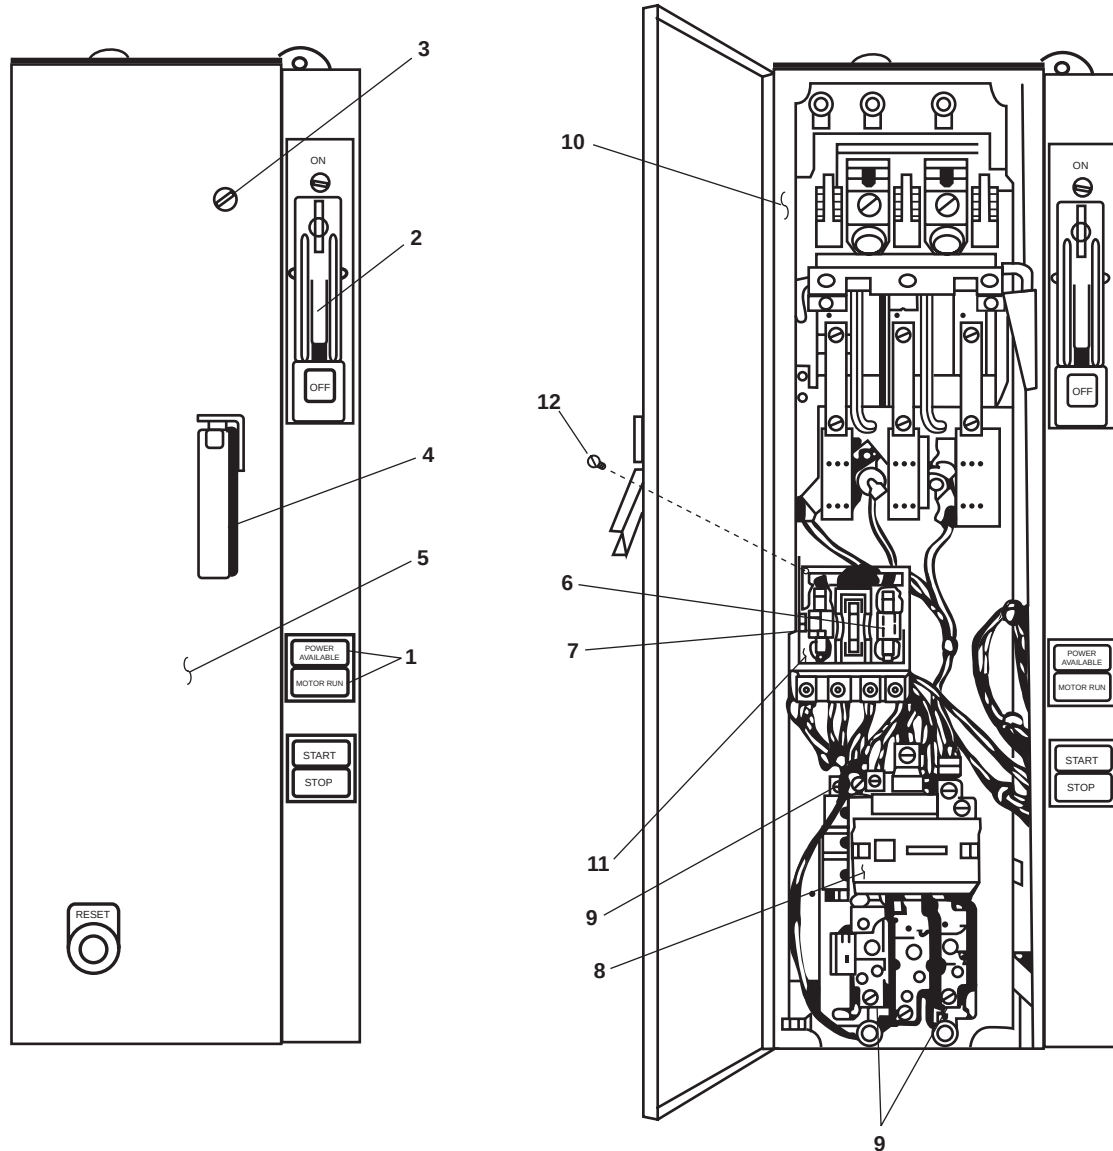

Figure 1. Motor Controller Type 3 (Typical)
1. Remove the lens cover (figure 1, item 1).
1. Install the lamps and lens covers (figure 1, item 1).
1. Set the switch handle (figure 1, item 2) to OFF.
2. Loosen the motor controller door screw (figure 1, item 3).
3. Turn the handle (figure 1, item 4) and open the door (figure 1, item 5).
2. Use a multimeter to check for voltage at the fuses (figure 1, items 6 and 7). If voltage is present, ensure that the proper circuit breakers have been set to OFF, locked out, and tagged out (FM 55-502). If no voltage is present, continue with the procedure.
3. Remove the cartridge fuse(s) (figure 1, item 6) and/or the slo-blo fuse (figure 1, item 7) using a fuse puller.
1. Install the cartridge fuse(s) (figure 1, item 6) and/or the slo-blo fuse (figure 1, item 7) using a fuse puller.